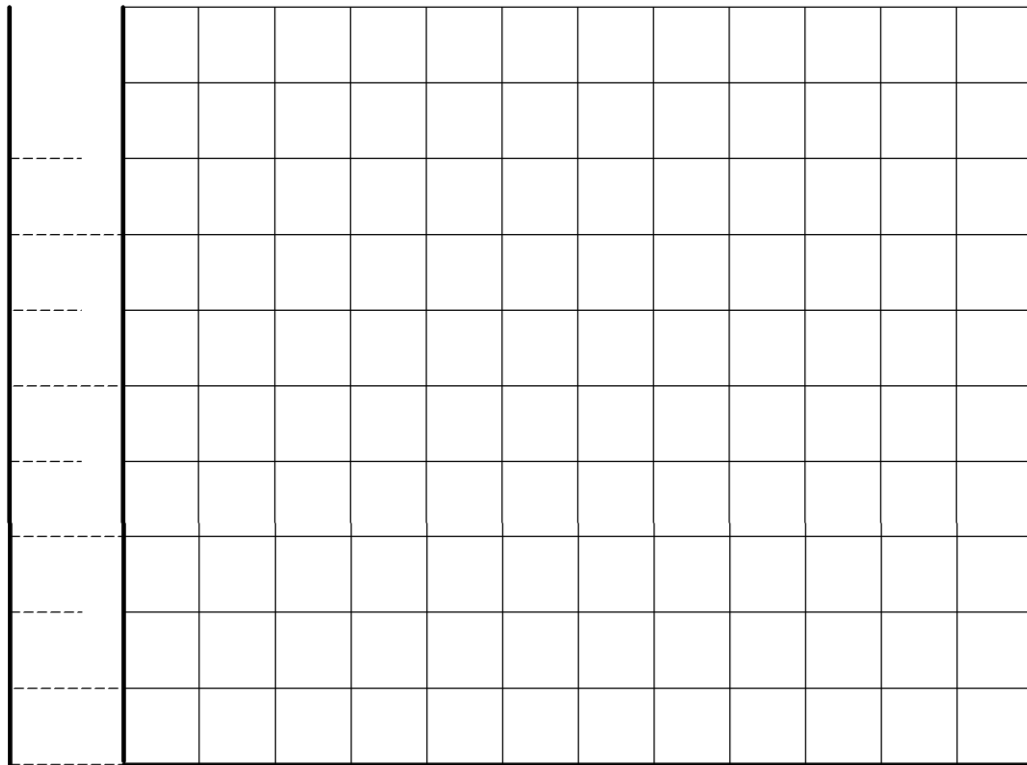

Fig. 2.2.2.3: Characteristics, $I = f(U)$ and $R = f(U)$ of the PTC resistor ('lamp')
- Draw the characteristics $I = f(U)$ and $R = f(U)$ in the chart (Fig. 2.2.2.3).